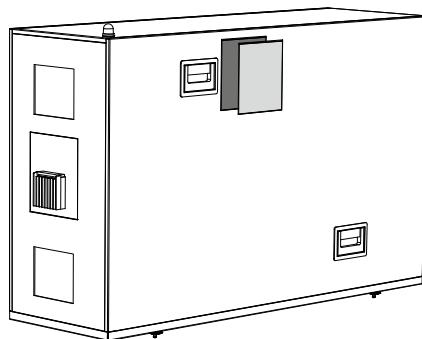

Figure 125: Removing the thyatron adjustment panel cover
1. Use the 3 mm allen key to remove the thyatron adjustment panel cover (see Figure 125).